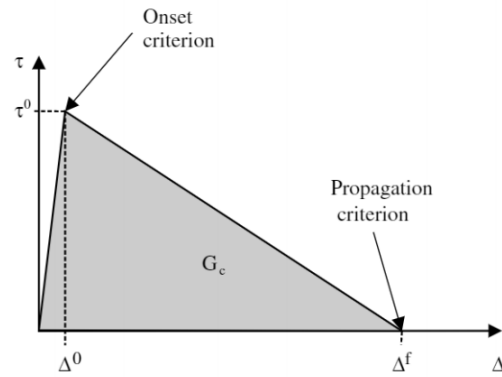

Fig. 3.5: **Bilinear Traction Separation Law** or the linear softening law [2].
- ‘**GcNormal**’ Fracture toughness in opening mode G_{C_I} . See Fig. 3.5
- ‘**GcShear**’ Fracture toughness in shear mode $G_{C_{sh}}$. See Fig. 3.5
- ‘**gFailureNormal**’ Final or failure displacement gap in opening mode Δ_I^f . See Fig. 3.5
- ‘**gFailureShear**’ Final or failure displacement gap in shear mode Δ_{sh}^f . See Fig. 3.5